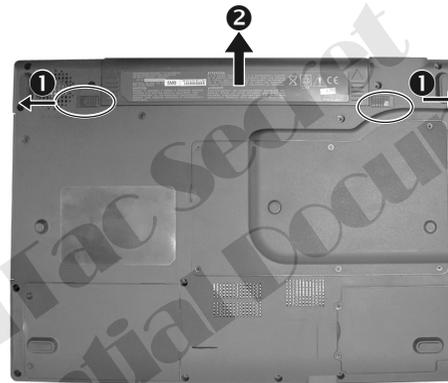

Figure 2-1 Remove the battery pack
2. Slide the two release lever outwards to the “unlock” (☐) position (❶), while take the battery pack out of the compartment (❷). (Figure 2-1)